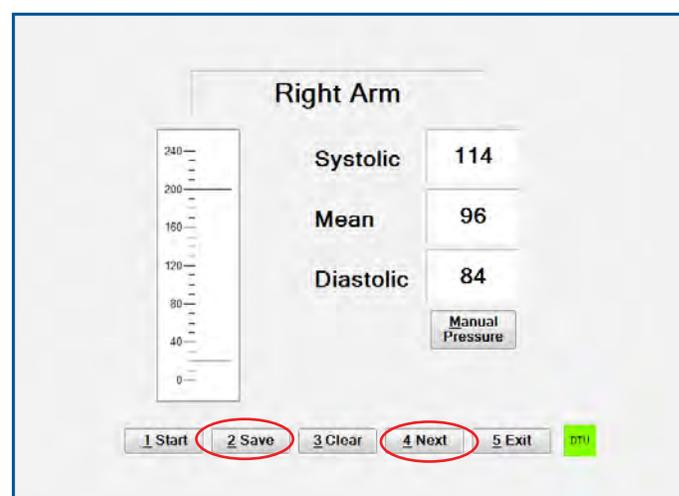

FIGURE 1.17 - Right Arm - “Save” and “Next” Buttons
17. Click “Next”, or press 4 (Figure 1.17) and move the cuff tube and probe to the next location, Left Arm.